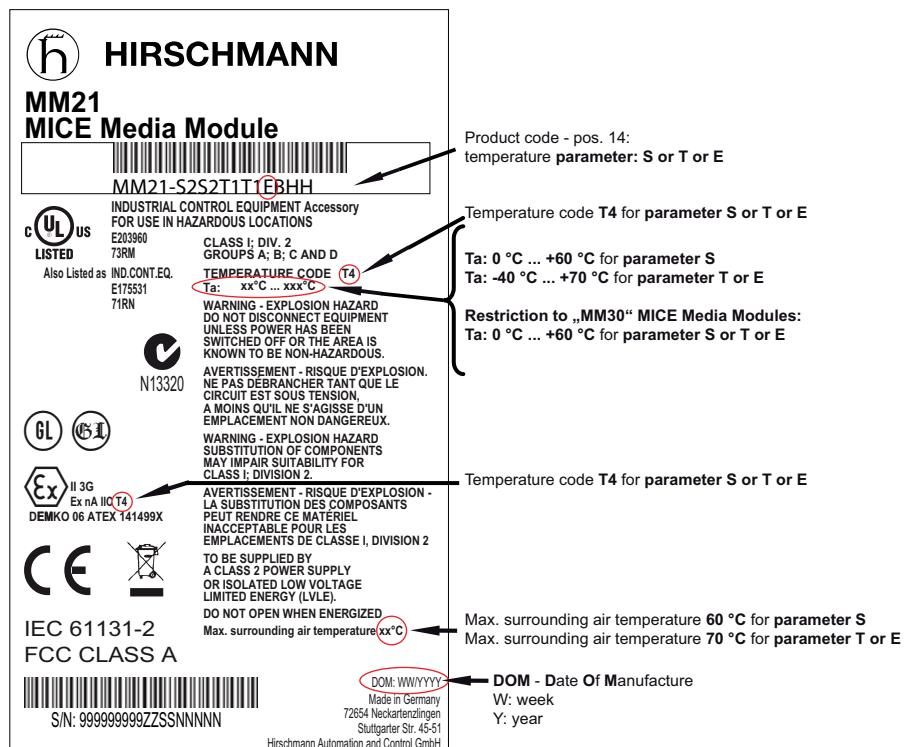

Fig. 0: Equipment Label Markings (MICE Media Module)
- refer to the device label (Fig. 0 - 2)